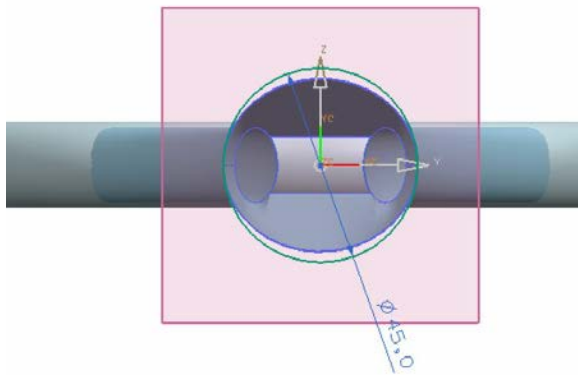

Figure 10-124 The first section curve drawn to create the through curves surface
- Create the through curves surface as the fourth feature, refer to Figures 10-124 and 10-125.
2. Select the newly created plane as the sketching plane and draw the sketch, as shown in Figure 10-124.